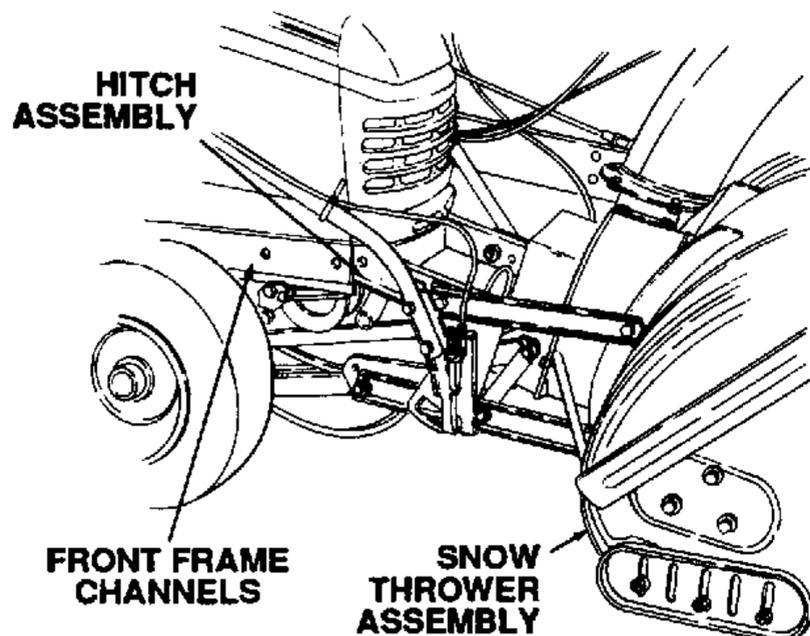

Figure 7-34. Position Snow Thrower.
1. Position the snow thrower assembly (1) directly in front of the tractor with the double pulley subframe assembly extending rearward between the front wheels of the tractor. See Figure 7-34.
2. Slide the snow thrower assembly rearward until the channel brackets of the hitch assembly engage the frame channel of the tractor. See Figure 7-34.